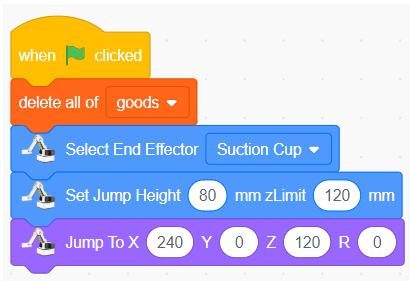

Figure 1.7 Basic settings
2) Set the starting method, set the end tool of the robot arm to the suction cup, set the lifting height in jump mode and the goods list, as shown in Figure 1.7.